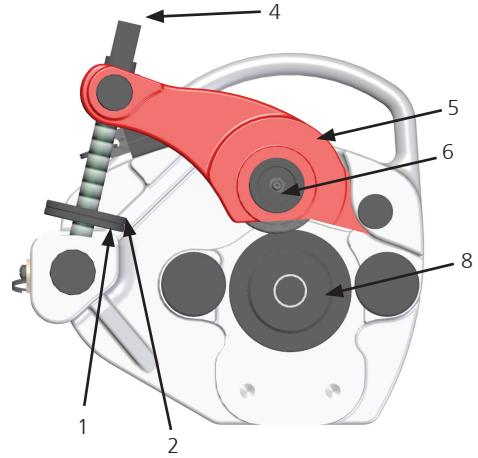

Figure 2
- On a workbench or on the floor, rotate the locknut (see figure 2, n.2) and the regulating nut (see figure 2, n.1) anti-clockwise.
- Rotate the guide screw (see figure 2, n.4) anti-clockwise to "lift" the upper roller from the lathe screw (see figure 2, n.5).